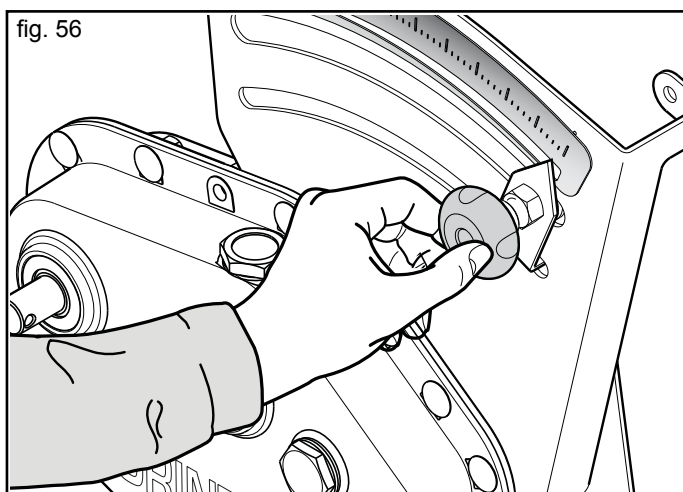

fig. 56
- 6) Loosen the fastening screw on the gear adjuster (Fig. 56)...